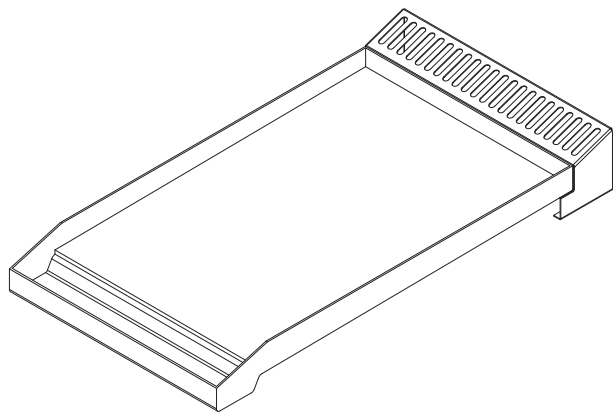

Fig. 1
**SE****INSTRUKTIONER FÖR ANVÄNDNING AV FRY-TOP MED GAS (FIG. 1)**
### REINIGING EN ONDERHOUD VAN DE BAKPLAAT (FIG. 1)